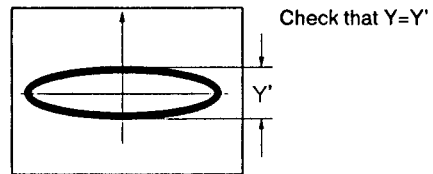

Fig. 2 Lissajous figure of the outer track of the disc (CD)
5. Close the TRKG servo and search frame #100, then open the TRKG servo again to observe the Lissajous figure. At this time, check that the Y-axis amplitude of the Lissajous figure is the same as that noted in step 4. (Fig. 2)